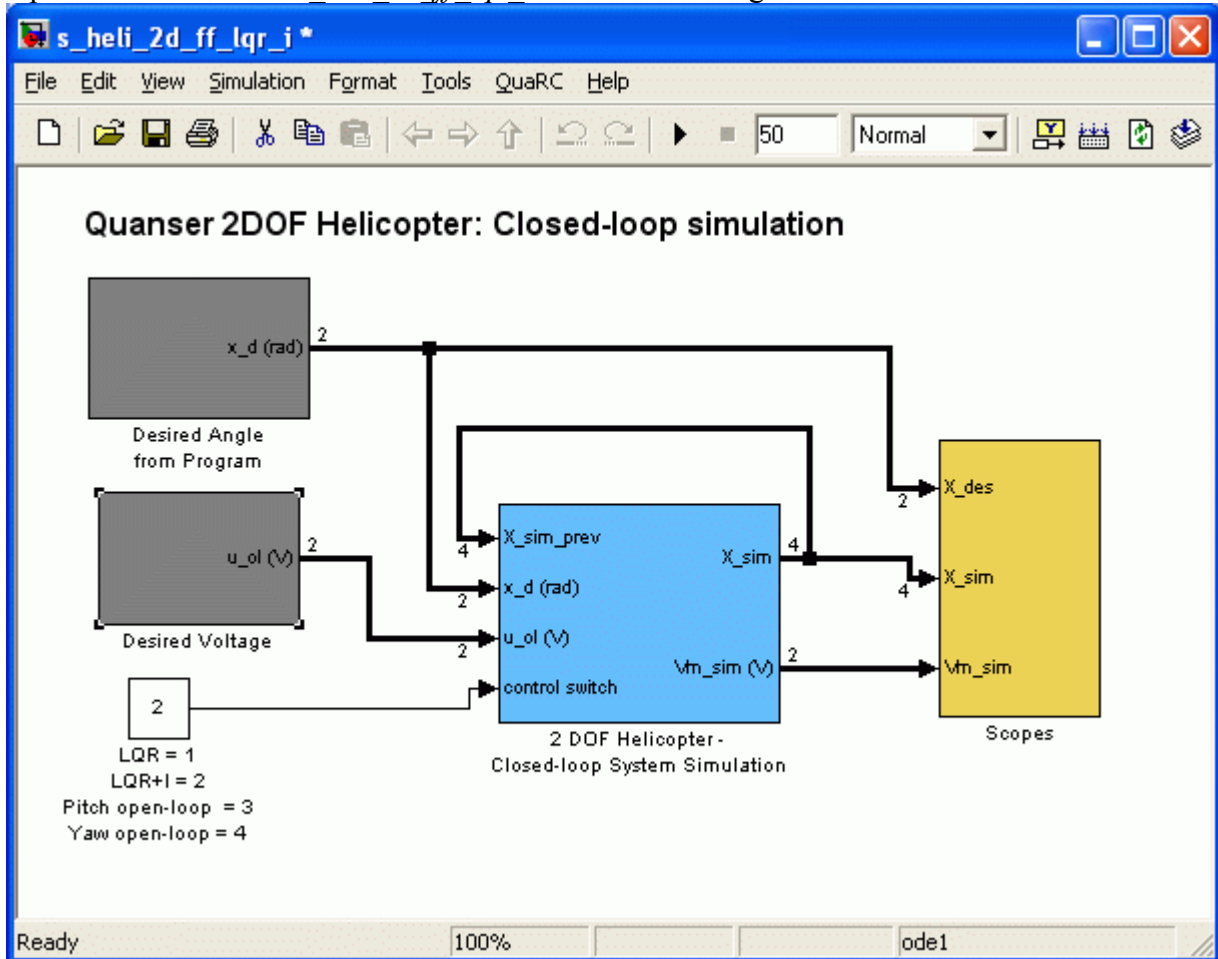

Figure 22: Simulink diagram used to simulate 2-DOF Helicopter system.
2. Open Simulink model *s_heli_2d_ff_lqr_i.mdl* shown in Figure 22.
When the switch is 1 or 2 the system runs in closed-loop and when it is 3 or 4 the user can command voltages directly to the actuators. When the switch is made from the closed-loop mode to open-loop mode the controller voltage values are latched and the *Desired Voltage* block shown in Figure 22 is enabled. This is particularly useful when performing model validation and parameter tuning